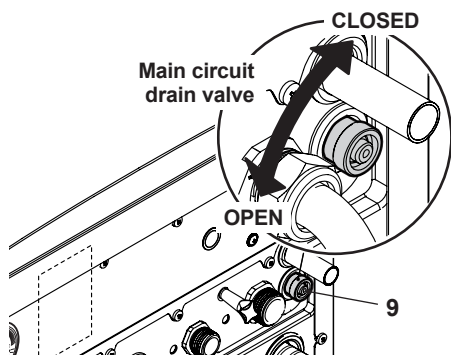

Fig. 9.10
- Loosen the central heating drain cock 9 indicated in Fig. 9.10.